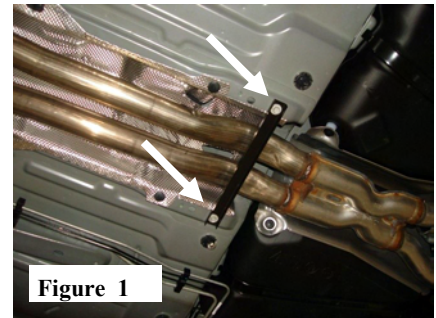

Figure 1
1. Remove (2) bolts and crossbar. Place this hardware aside for installation later. (See Fig. 1)